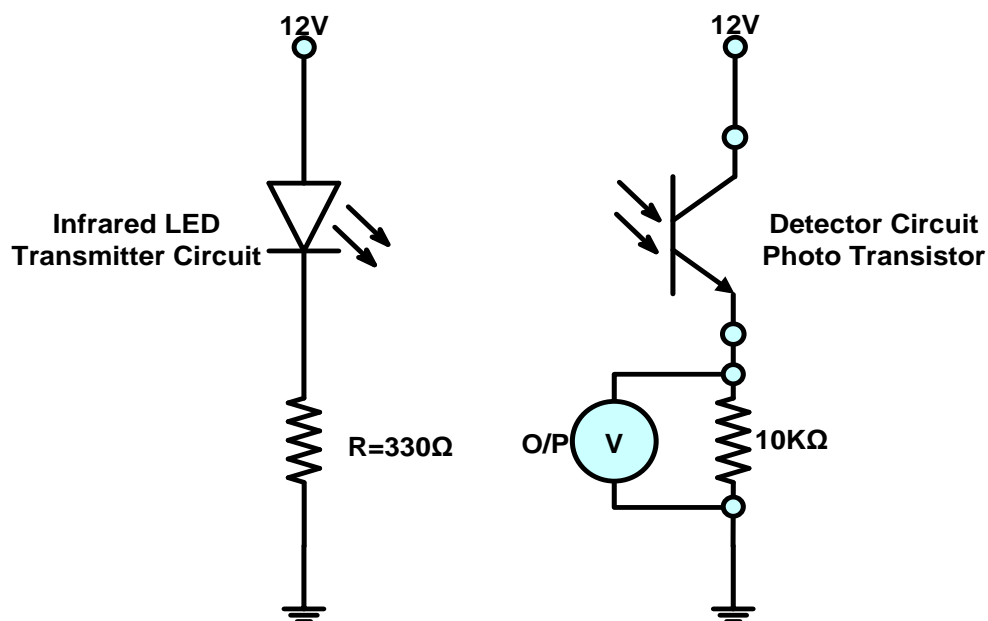

Figure 13.1
1. Connect the circuit shown in figure 13.1 on the bread Board.